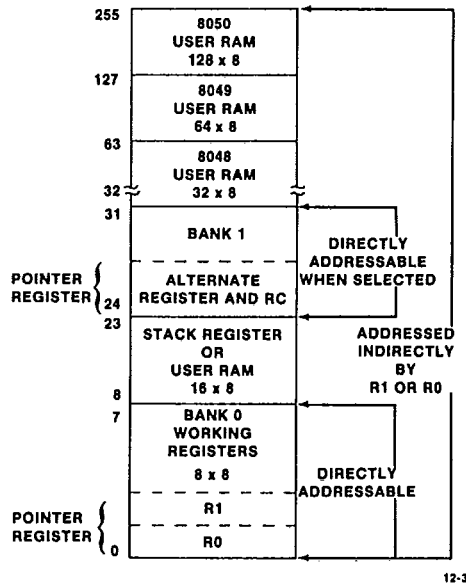

FIGURE 3. 48-Series Resident RAM Data Memory Map
The resident RAM data memory is arranged as 64 (INS8035/8048), 128 (INS8039/8049) or 256 (INS8040/8050) bytes. RAM addressing is implemented indirectly via either of two 8-bit RAM pointer registers R0 and R1. These pointer registers are essentially the first two locations in the RAM (see Figure 3), addresses 000 and 001. RAM addressing may also be performed directly by 11 direct register instructions. The pointer register area of the RAM array is made up of eight working registers that occupy either the first bank (0), locations (0 to 7), or the second bank (1), locations (8 to 15). The second bank of working registers is selected by using the Register Bank Switch instruction (SEL RB). If this bank is not used for working registers, it can be used as user RAM.